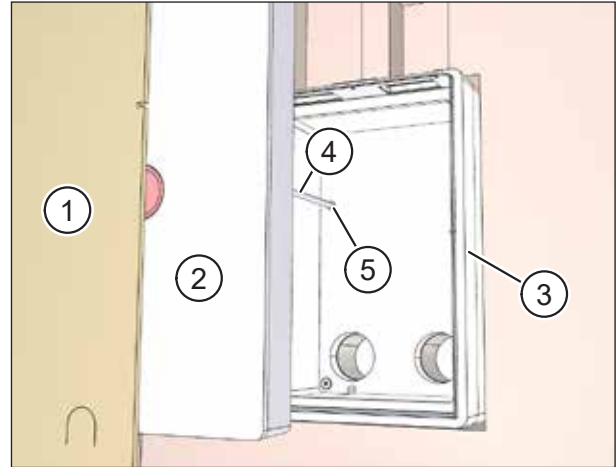

Fig. 22: Inserting the wall box
- ▶ Remove the plaster cover (item 1 in Fig. 22) and the protective cover (item 2 in Fig. 22) from the wall box (item 3 in Fig. 22).
- ▶ Thread the mains cable and the control cable, if required (item 4 in Fig. 22), through the cable inlet in the wall box (item 5 in Fig. 22).
- ▶ Push the wall box (item 3 in Fig. 22) fully into the wall breakthrough.
- ▶ Check that the protective cover (item 1 in Fig. 22 on page 28) is inserted before filling with foam.